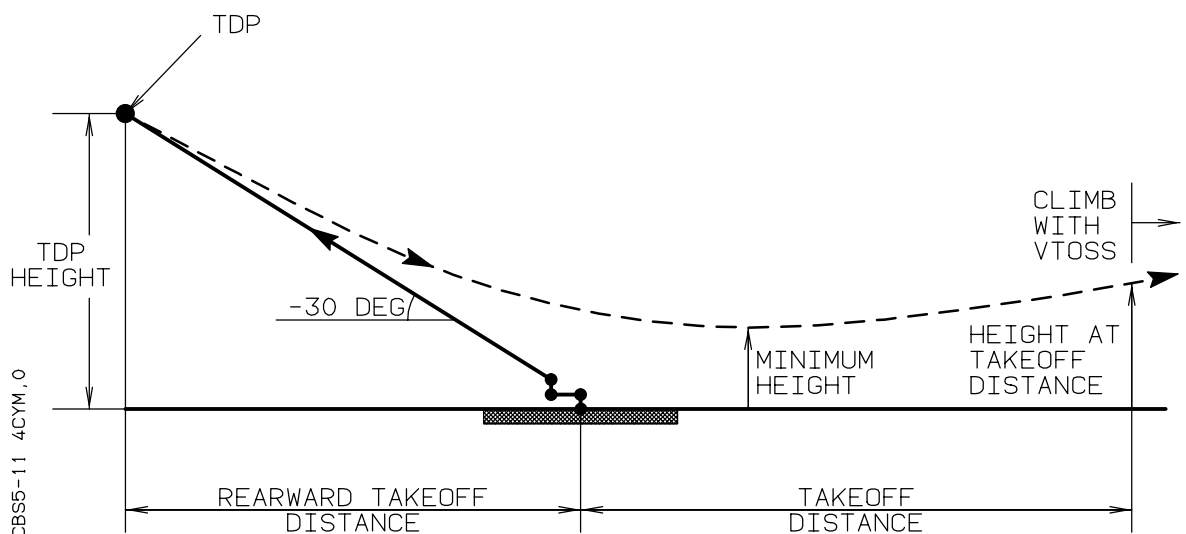

Fig. 19 VTOL - Modified Flight Path to Clear High Obstacles
5.3.1.1 Distance From Heliport To Obstacle is Less Than the Takeoff Distance Required (see Fig. 19)
EXAMPLE: (see Fig. 19 and Table 1)